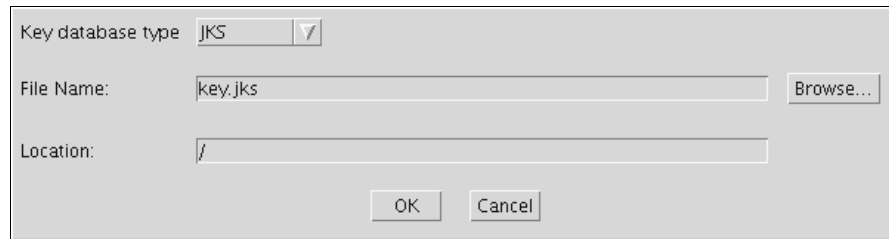

Figure 16-3 Create new key database window
3. Click **Key Database File** → **New**. A window similar to the one in Figure 16-3 will appear.